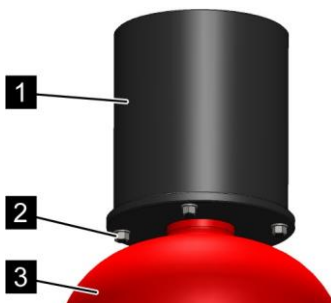

Fig. 49: Protective valve cap
2. ➔ Fit on and screw (Fig. 49/2) the protective valve cap (Fig. 49/1) onto the extinguishing agent container (Fig. 49/3).